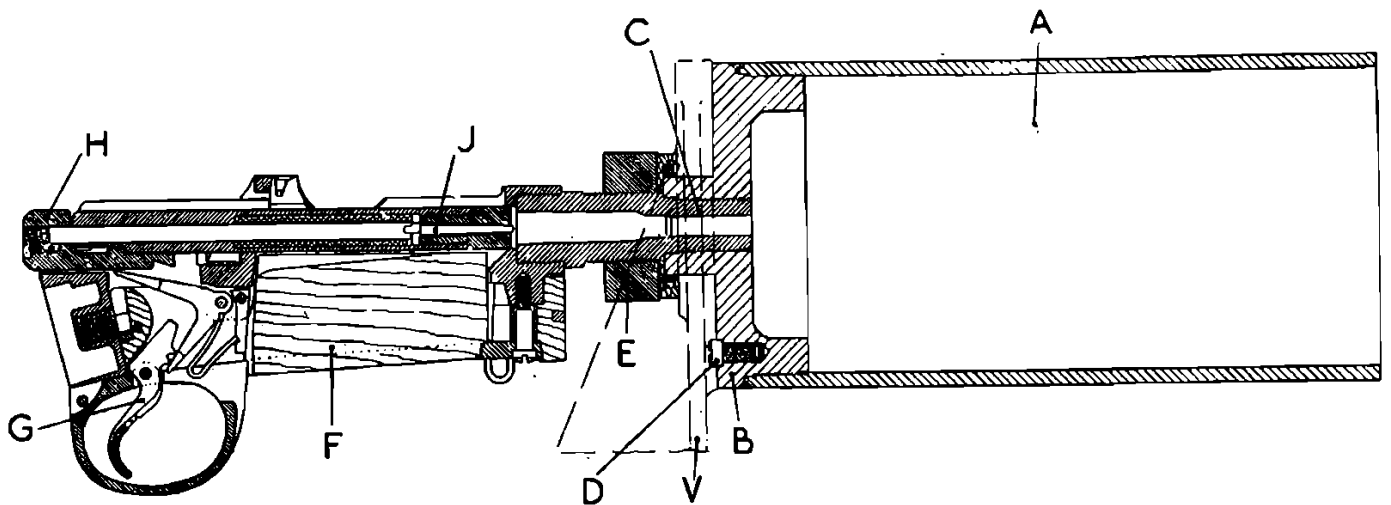

Figure 93. Discharger Smoke Generator 4 in. No. 2 Mark II
The barrel is a steel tube (A Fig. 93) with a base (B) screwed and welded to one end. The base is cupped internally and has threaded hole through a boss at its centre, for the chamber portion (C) of a rifle barrel. A screw (D) engages in a hole in the supporting bracket to restrain the discharger from turning. The chamber portion is formed from the breech end of a rifle barrel, which, in addition to the normal screwed portion for assembly to the action, is threaded at its front and to screw into the base of the barrel and in the centre, for the clamping nut. The hexagonal clamping nut (E) secures the discharger to the supporting bracket on the vehicle.